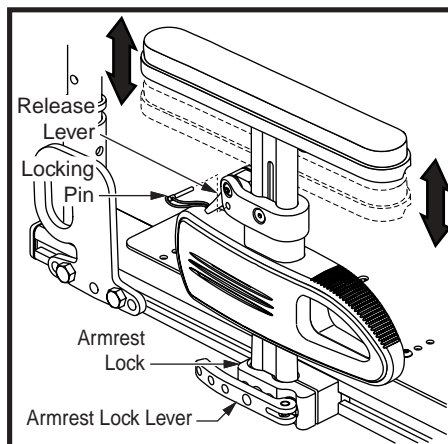

Figure 20. Pediatric Single Post Quick Height Adjustable Armrest Top Height Adjustment
1. If present, remove the optional locking pin. See figure 20.